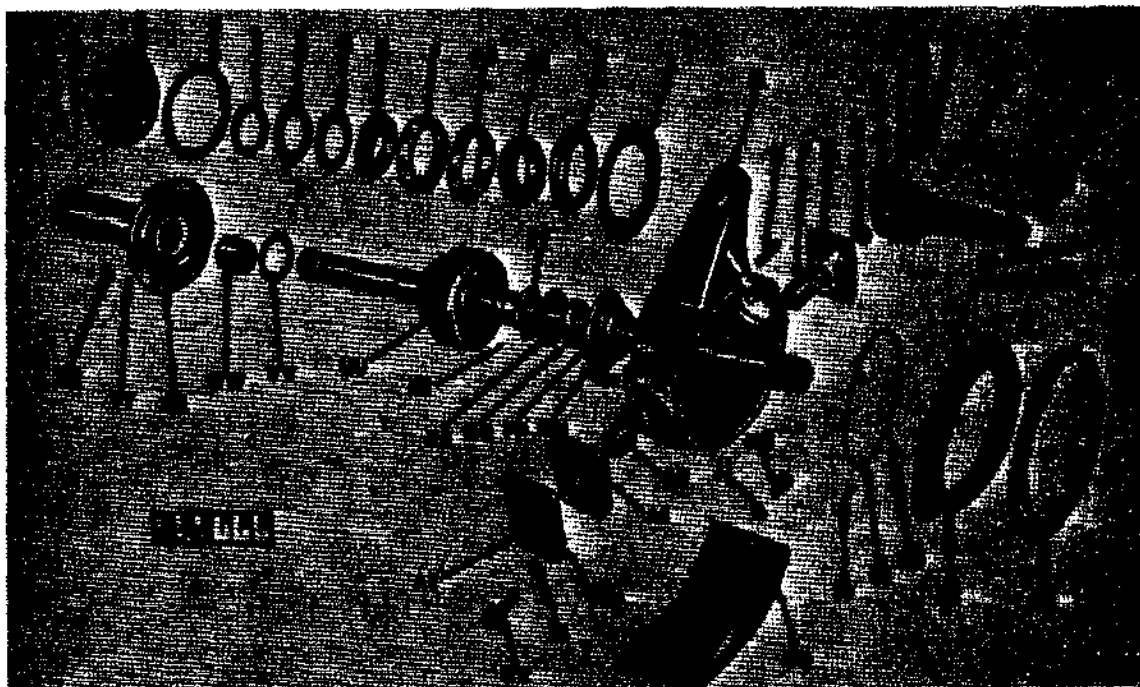

Figure 347. Steering knuckle assembly - exploded view
- (4) Remove steering arm (S, fig. 347). Remove the nuts (V), lockwashers (U), and steering arm stud sleeves (T) that attach steering arm (S) to steering knuckle (M). Tap steering arm lightly with a soft hammer to loosen stud sleeves. Remove steering arm and stud sleeves from steering knuckle. Lift steering knuckle sleeve (Q) and steering socket pin spacer (R) from steering knuckle.